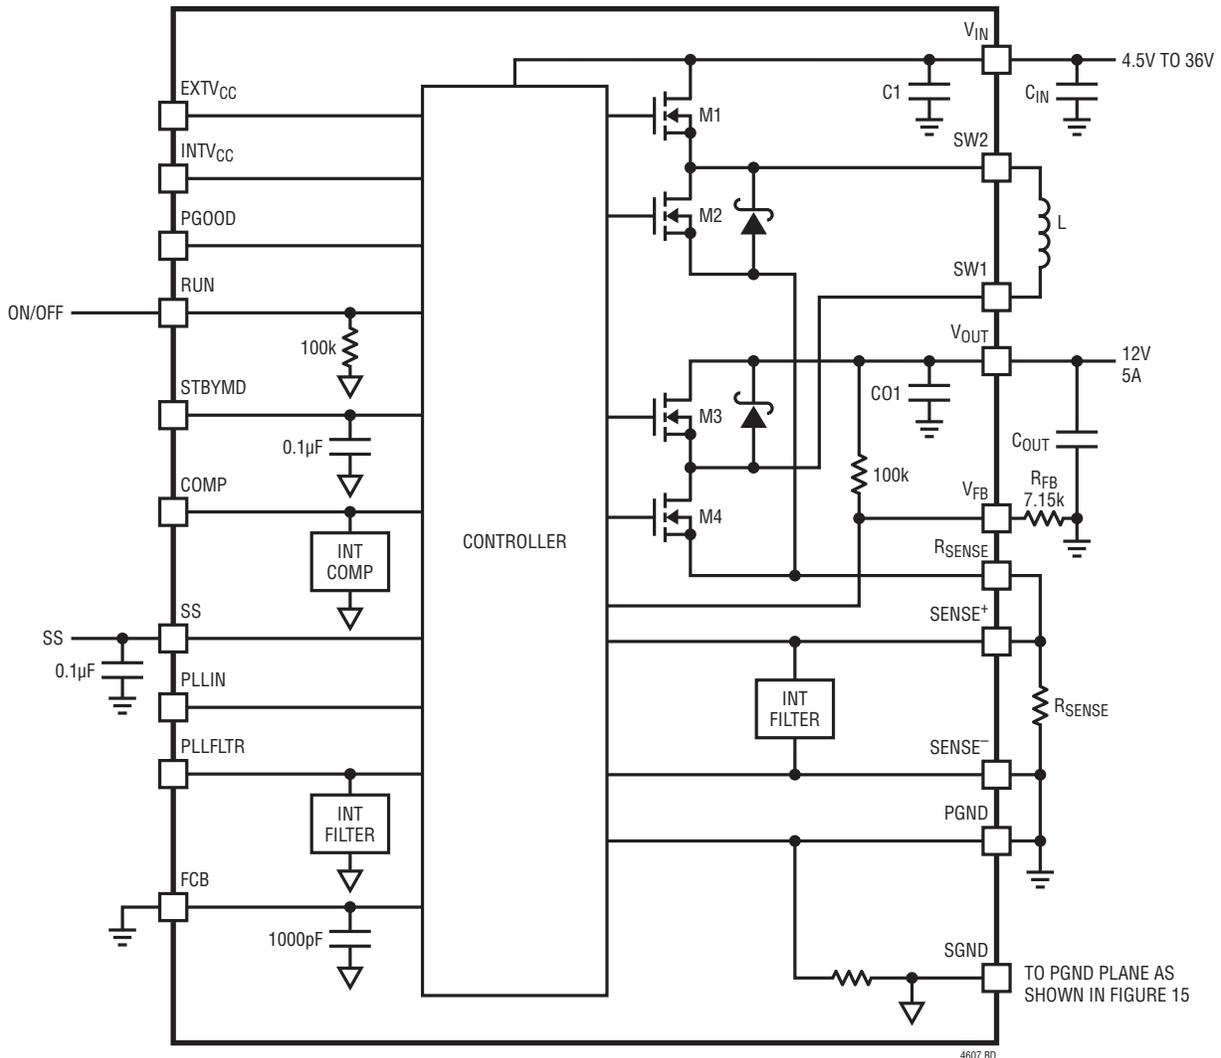

Figure 1. Simplified LTM4607 Block Diagram
**DECOUPLING REQUIREMENTS**  $T_A = 25^\circ\text{C}$ . Use Figure 1 configuration.